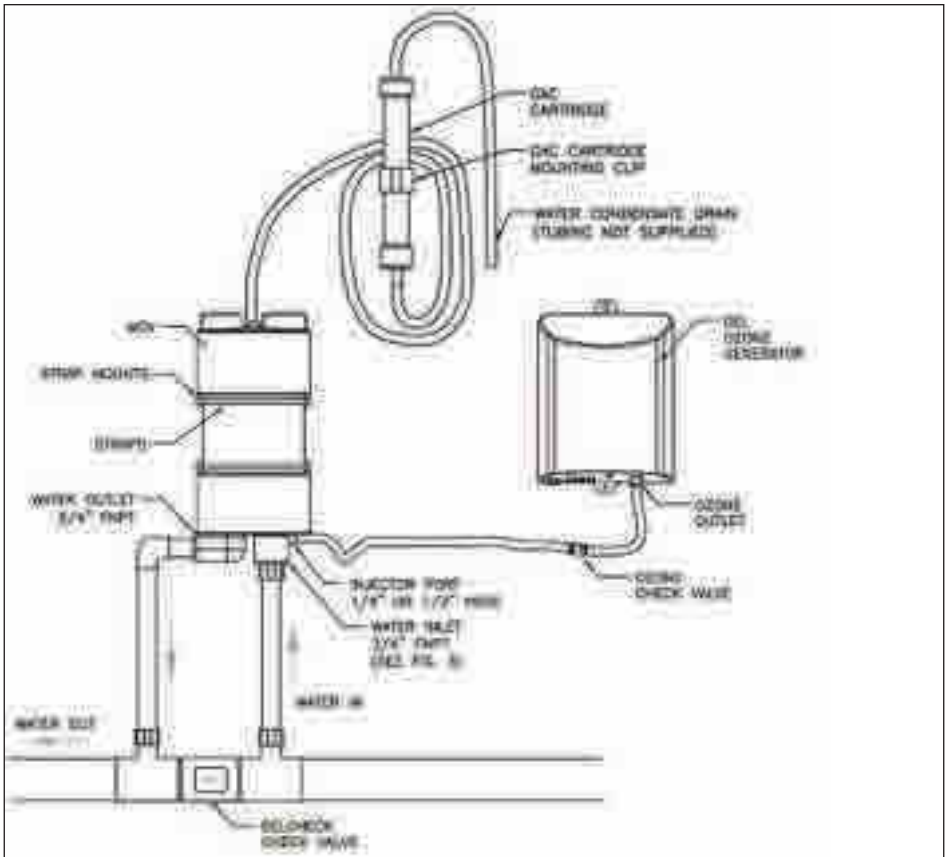

Figure 3. 2-Speed Pump Installation
If your spa uses a 2-speed pump, rather than a recirculation system, or if your recirculation system flows in excess of 8 GPM, you will have to plumb the MDV in a side stream configuration as detailed in Figure 3. Because spas and plumbing systems can vary greatly, it is impossible for DEL to recommend a specific check valve pressure that will work in all systems. You may need experiment to find the optimal solution for your spa system.
2. 2-Speed Pump (Figure 3)
- b. Plumb a DELCheck Valve and T's as indicated in Figure 3. Confirm that the water flow direction arrow on the DELCheck Valve matches the water flow direction.